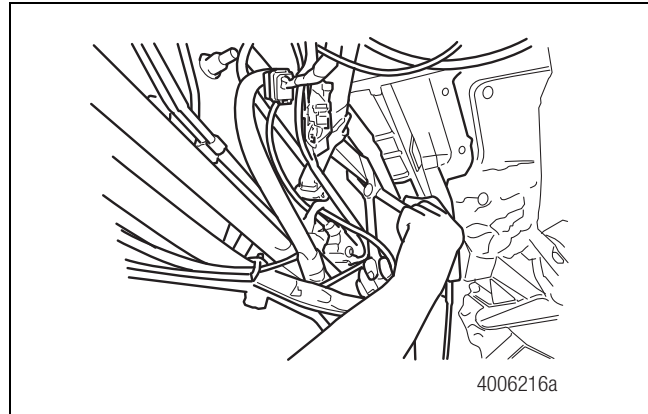

Figure 4.31
7. Use hose clamp pliers to clamp the rubber hose at least three-inches (76.2 mm) away from the entrance to the HCU reservoir. Use care to avoid damage to the plastic reservoir nipple inside the hose. Figure 4.31.